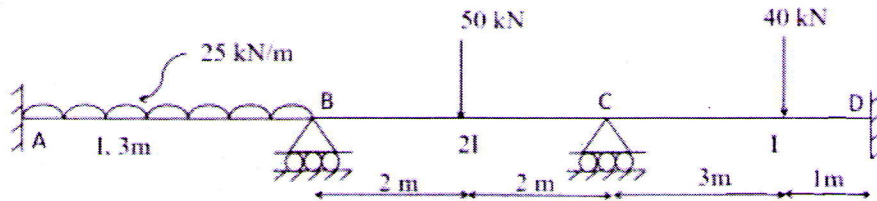

Fig.3
- 4 a) Differentiate between absolute stiffness and relative stiffness. (5)
b) Analyse the continuous beam given in Fig.3 by Moment distribution method and draw BMD. (10)